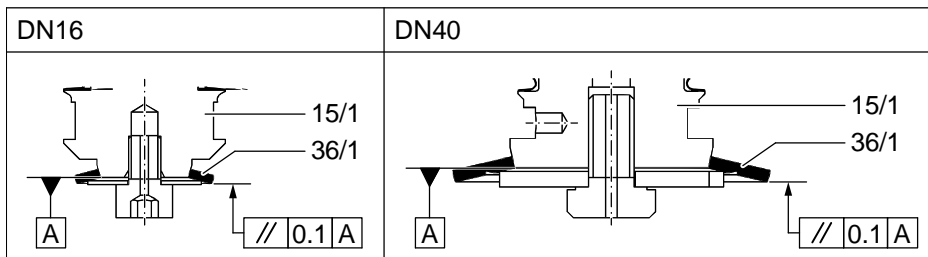

Figure 7-3
27. Protect bellows against torsion by hole or wrench size; see «Figure 7-3» and tighten screw (67) with the following torque: